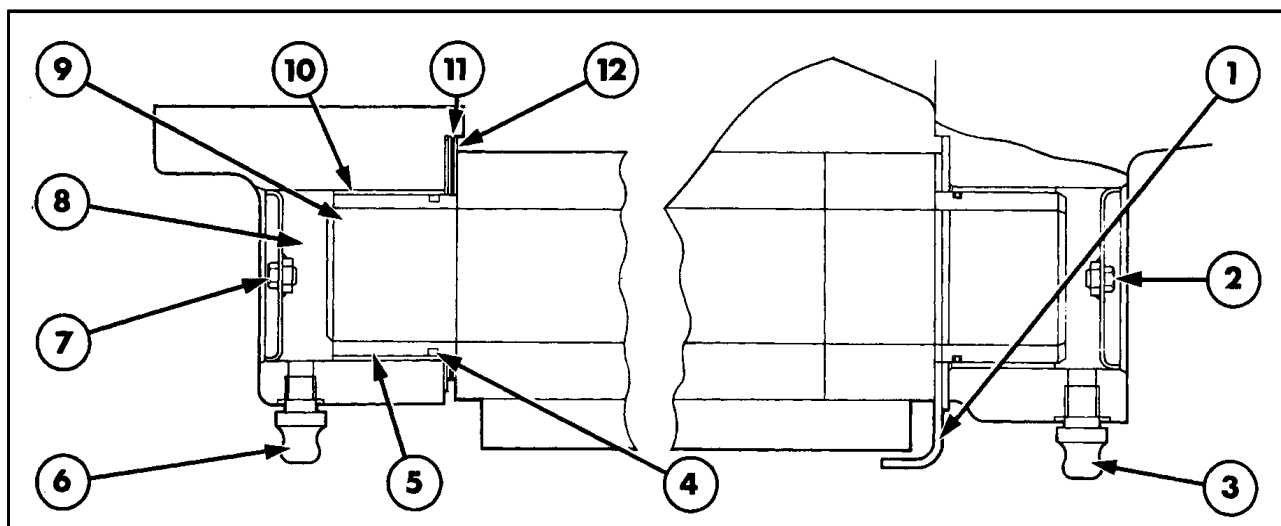

Figure 3
- a) The axle trunnion pins have sleeves shrink fitted onto both ends. The sleeves run in support bushes and house "O" rings at their inner ends for grease retention and sealing as shown in Figure 3. Replacing the sleeve and bushes will restore the assembly to as 'new' position.
- b) Two grease nipples are provided, one on the front axle support and other on the trunnion, as shown in Figure 3. To enable the trunnion pin to be effectively greased, a screw in plug is provided in the centre of end covers. Remove the plug before greasing and apply a high pressure grease gun to the grease nipples until grease is expelled from the plug holes. Reinstall the plugs after greasing.